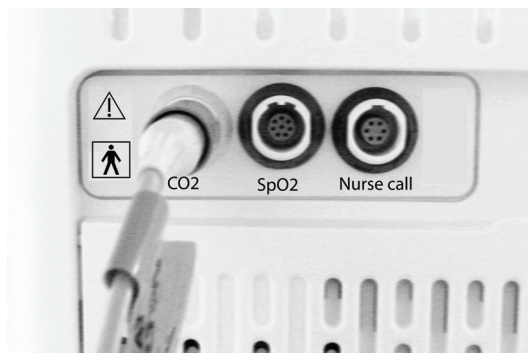

Figure 2-12. Connecting the CO2 sensor
1. Plug the sensor cable into the CO₂ module connector (Figure 2-12), observing the orientation of the indexing guides on the connector body. The cable should snap into place.
Press the sensor and the adapter together until they click (Figure 2-12).